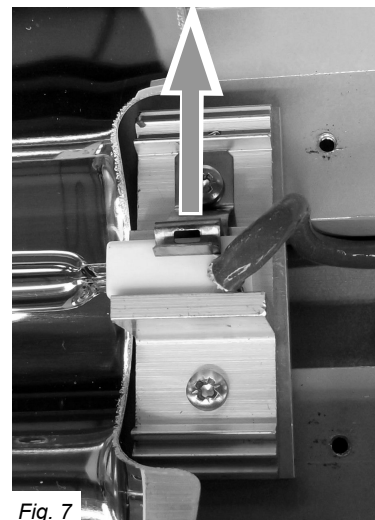

Fig. 7
10. One at a time pull the spring clips back in the direction shown in Fig. 7 and lift up the ceramic caps of the emitter to remove it from the heater.